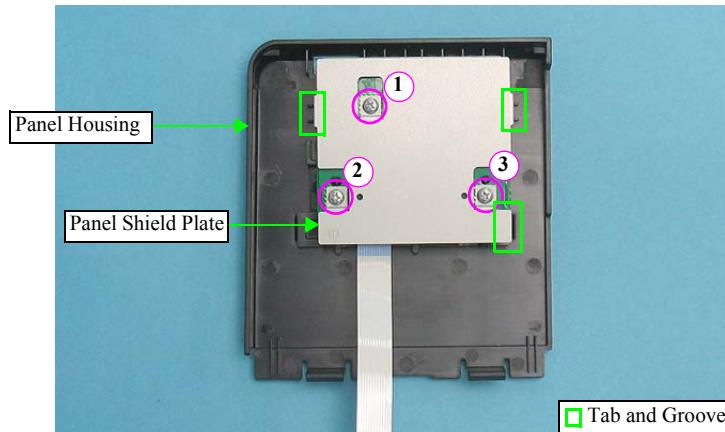
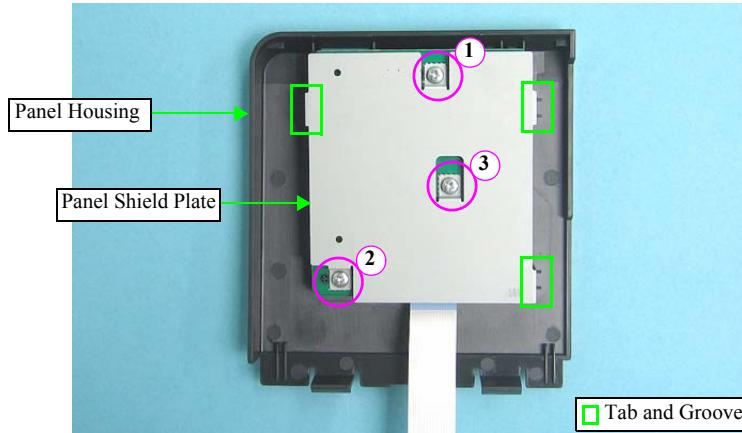

Figure 4-64. Removing the Panel Shield Plate. (B-300/B-308)
Figure 4-65. Removing the Panel Shield Plate.
- When attaching the Panel Shield Plate, insert the three tabs of the plate into the grooves on the Panel Housing as shown in *Figure.4-64* & *Figure.4-65*. Then tighten the screws in the order indicated in *Figure.4-64* & *Figure.4-65*.